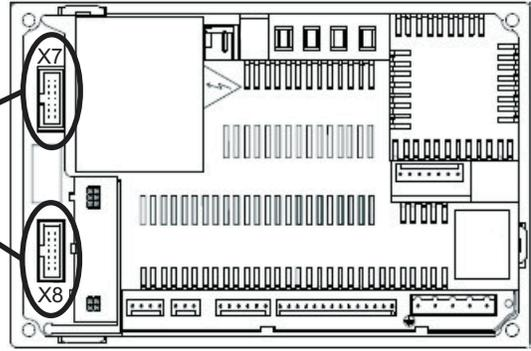

Figure 3.1: GCI Ribbon Cable Receptacle on MCBA
- 4) Connect the ribbon cable from the GCI into the open receptacle on the MCBA next to the ribbon cable from the boiler display/keypad (Figure 3.1).